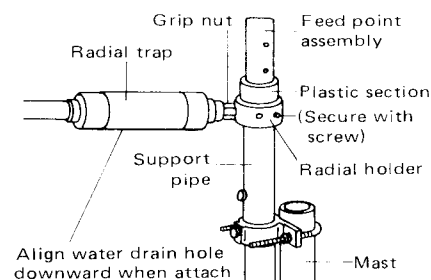

Fig. 2
5. Screw each radial trap with radial element to radial holder with hands. Then align water drain hole of each radial trap downward and fasten it with grip nut as shown in Fig. 2. To concentrate radials on one directions, place 7 MHz and 21 MHz radials at both ends and other radials on center.
6. Place radial holder at upper end of support pipe immediately underneath the plastic section of feed point assembly and tighten screw which secured radial holder temporarily. (See Fig. 2)